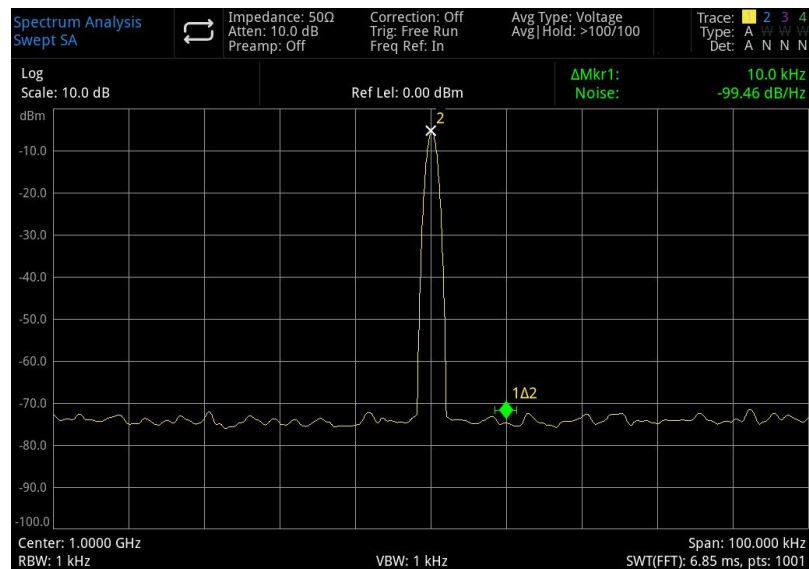

Figure 3-20 Phase Noise
7. Open **marker function >mark noise**, as shown in Figure 3-20: